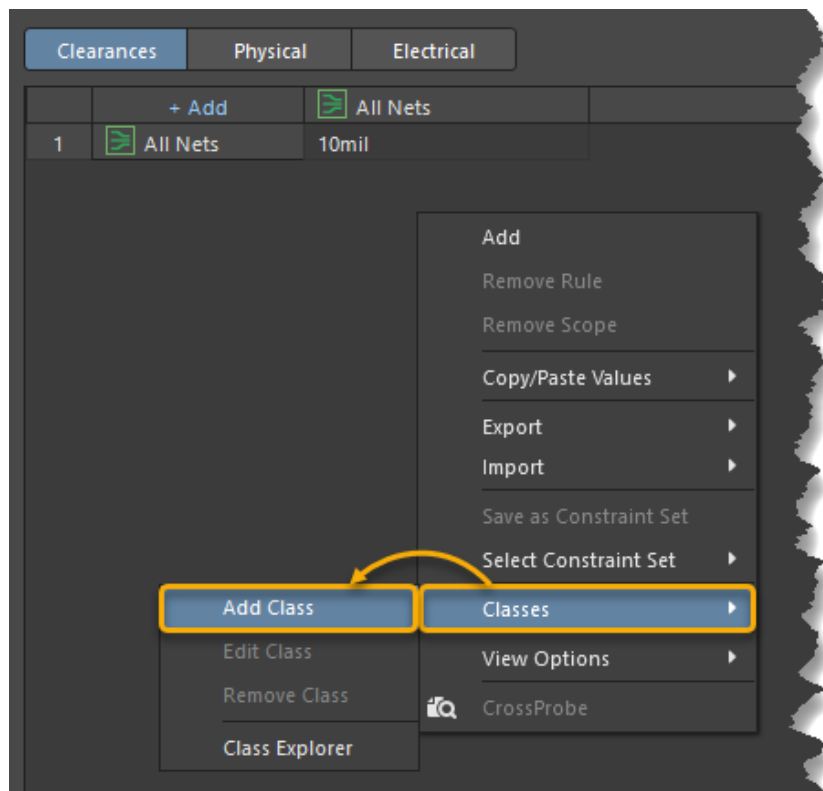

Figure 6. New Class
25. Right-click anywhere in the table and select **Classes » Add Class**, Figure 6. The *Add Classes* dialog will appear.